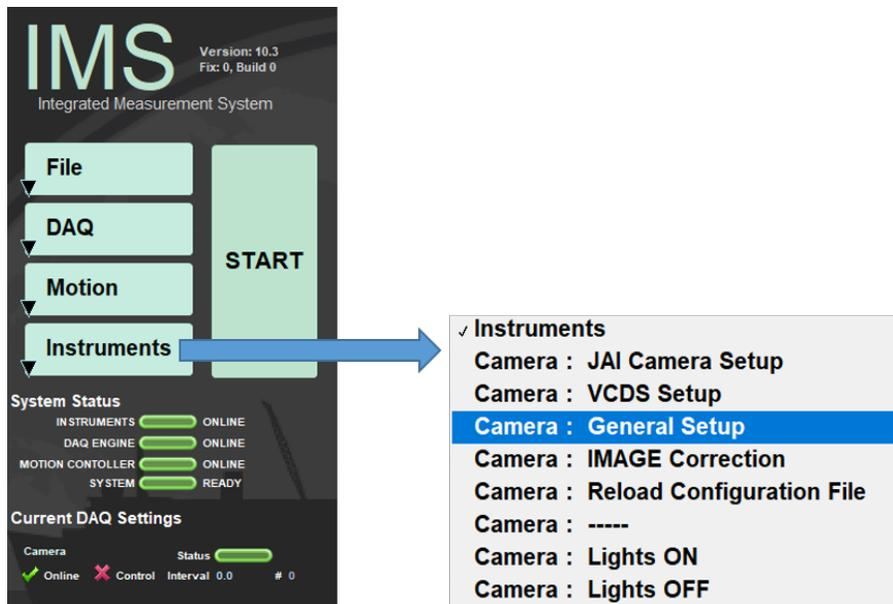
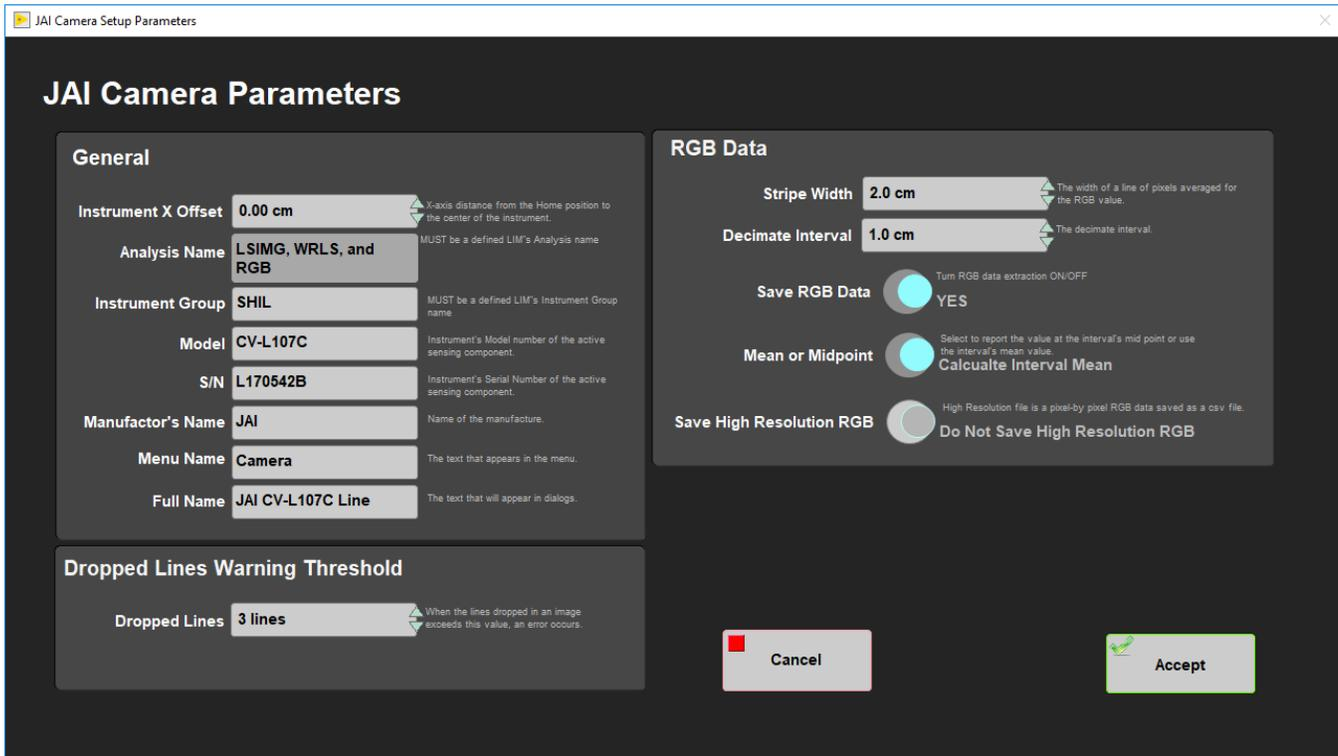

Figure 6. Select JAI Camera Setup Parameters window
Figure 7. JAI Camera Setup Parameters window
1. Go to **Instruments > Camera: General Setup** (Figure 6). The JAI Camera Setup Parameters window will appear (Figure 7).
**Hi RES RGB:** This file default is turned off and can be turned on in **Instruments > Camera: General Setup** (Figure 7). The Hi-Res RGB file reports a Red, Green, and Blue value for each line of pixels down the length of the core. 1cm is 200 lines of pixels so a 150cm core will yield approximately 30,000 lines of data depending on the exact crop length. The file is not currently uploaded to the database and is instead copied to data1 at the end of the expedition. The files can be put on the server for scientist access to a convenient, shared location such as UserVol.